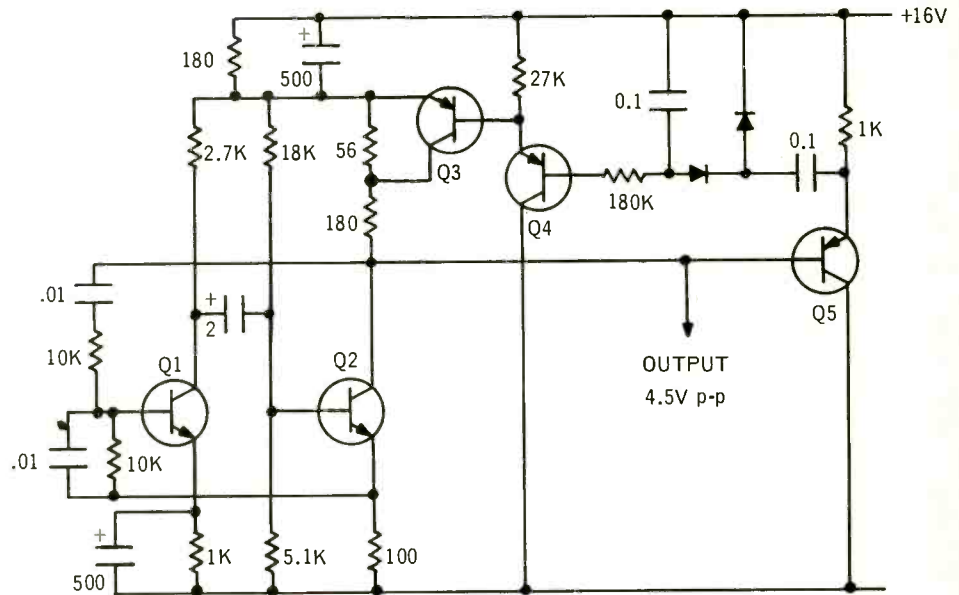

Fig. 1. The basic, stable oscillator, developed in the previous article, that forms the starting point for this one.
**I**N A PREVIOUS ARTICLE, we developed a feedback oscillator with high stability and limited frequency range, the essential features of which are repeated at Fig. 1. Transistor Q1 is the high-gain stage utilized for oscillation, Q2 is a phase splitter, Q3 a saturating transistor that controls positive feedback, Q4 a d.c. amplifier controlling the saturating transistor, and Q5 an emitter follower to isolate the control-voltage rectifier from the main output.